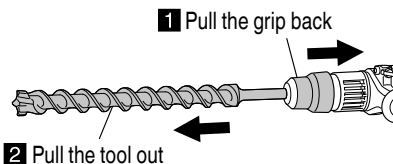

Fig. 8
- (3) Pull the tool to make sure it is locked completely.
- (4) To remove the tool, fully pull the grip in the direction of the arrow and pull out the tool (Fig. 8).